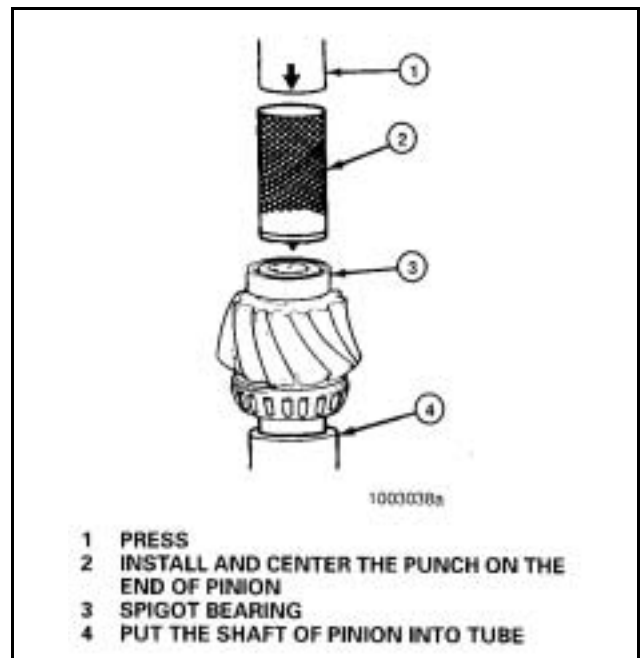

Figure 57c
- Place the drive pinion and the tube of the staking tool in a press, spigot bearing toward the top. **Figure 57c.**
- Place the punch of the staking tool over the end of the pinion and spigot bearing. Apply the required amount of force on the punch. **Figure 57c.**